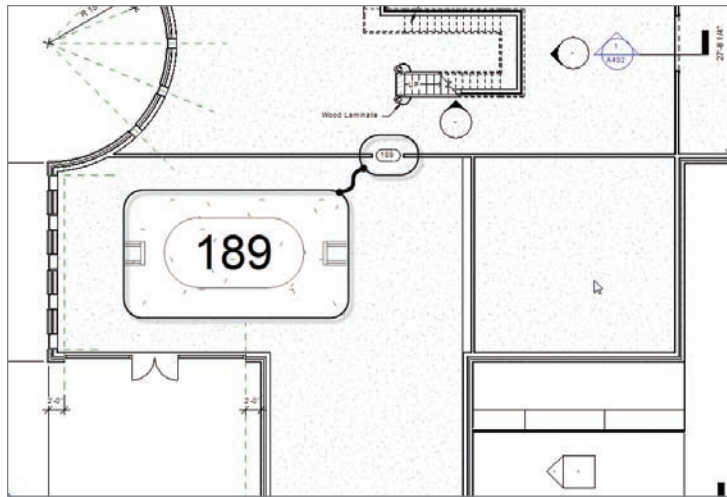

FIGURE 17.21 Adding the family to the project
15. Insert it in the wall, as shown in Figure 17.21. (Do not worry too much about placement.)